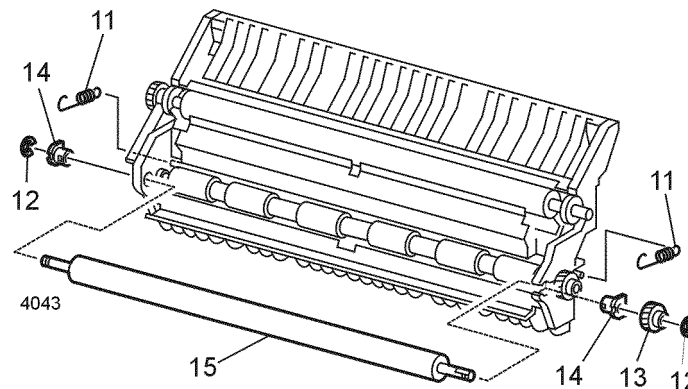

Figure 1 Metal Registration Roll
11. Release the left and right Registration Springs (Figure 1).
12. Remove the left and right E-rings (Figure 1).
13. Remove the Gear from the right end of the Metal Registration Roll (Figure 1).
14. Remove the right and left bearings (Figure 1).
15. Lift the right end of the Metal Registration Roll. Slide the roll to the right to free the left end of the roll. Then slide the roll to the left to remove (Figure 1).